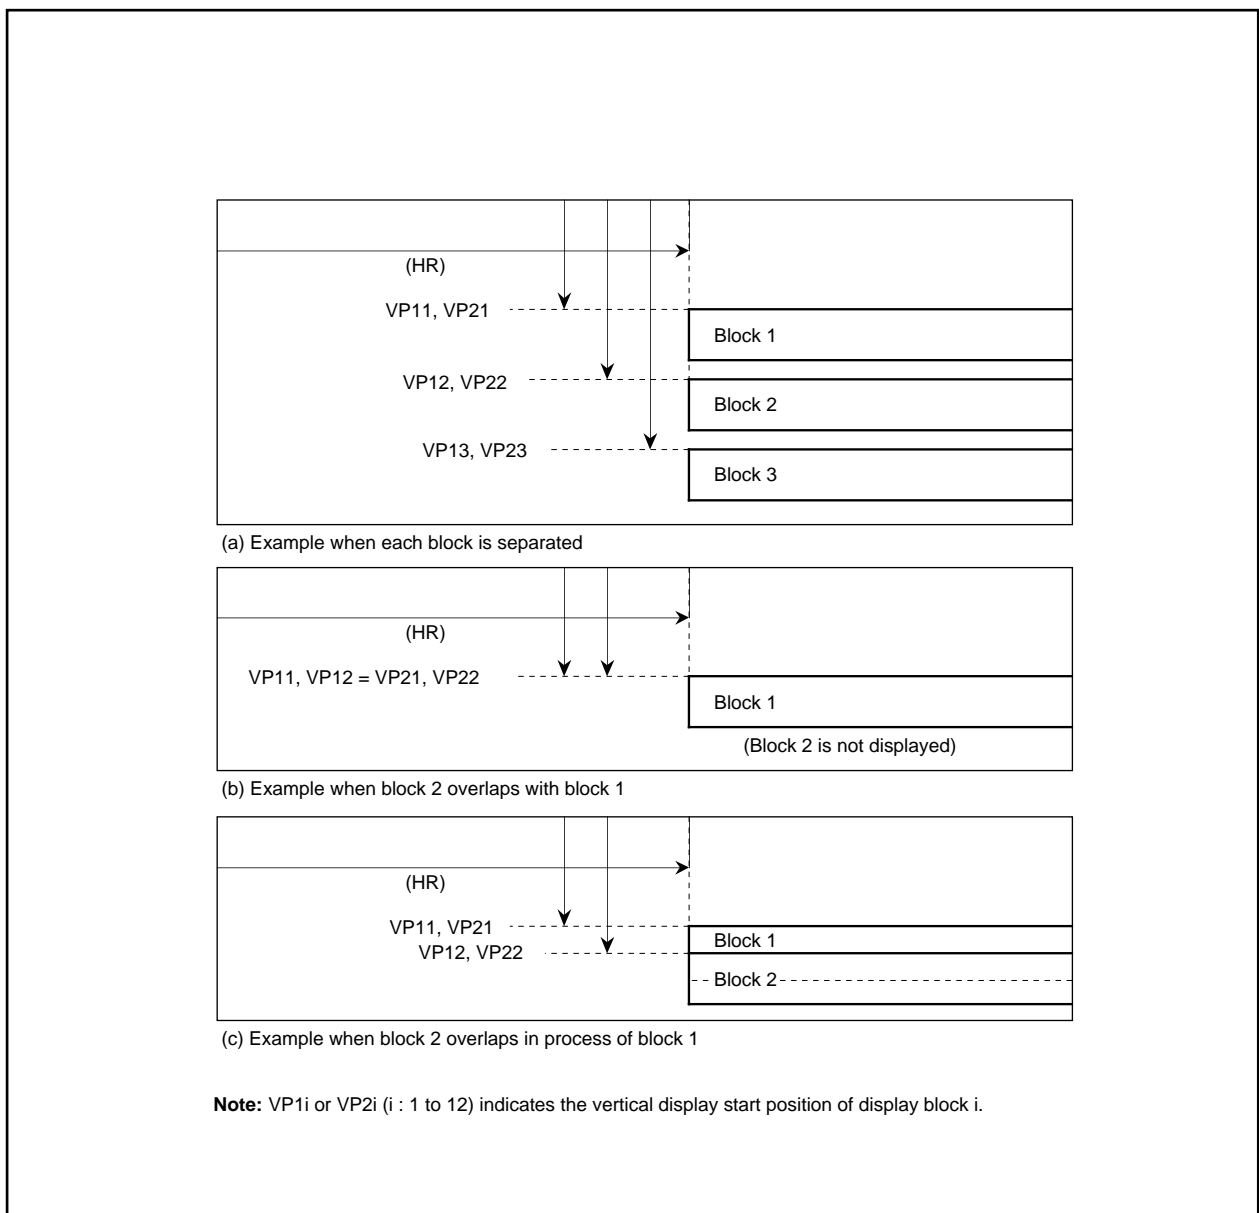

Fig. 59. Display Position
- ① When the display position is overlapped with another block (Figure 59, (b)), a lower block number (1 to 12) is displayed on the front.
- ② When another block display position appears while one block is displayed (Figure 59 (c)), the block with a larger set value as the vertical display start position is displayed. However, do not display block with the dot size of 2T_C X 2H or 3T_C X 3H during display period (*) of another block.